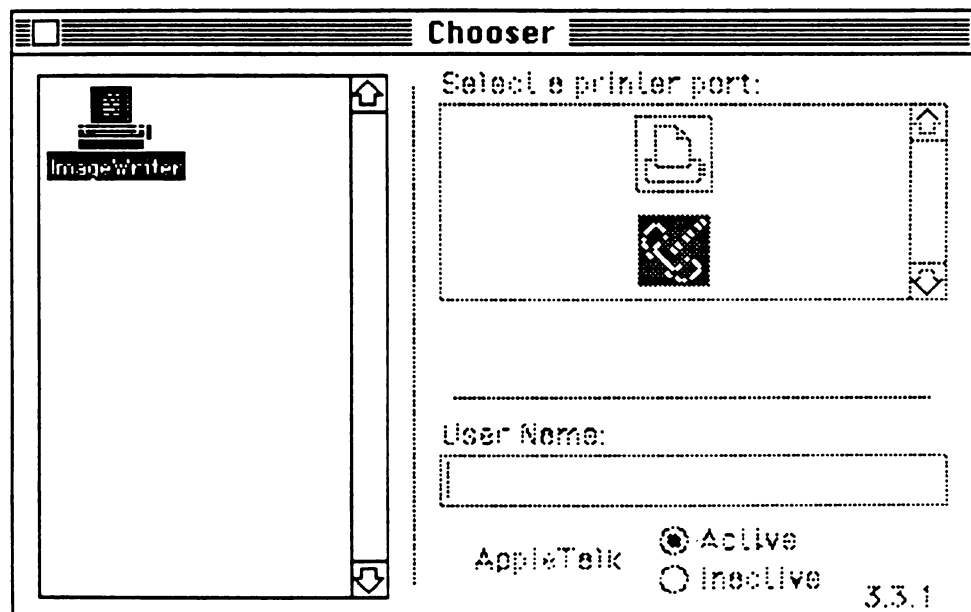

Figure 26. Choosing the ImageWriter icon
5. Select the ImageWriter icon as shown in Figure 26.